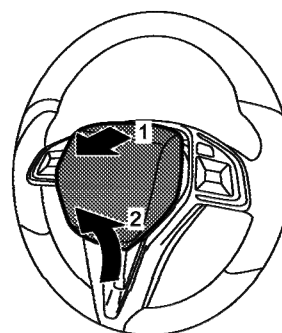

Figure 8
11. Lift the driver air bag module bottom up and away while pulling the top, according to the numerical order 1→2 as shown in the Figure 8, and then remove the driver air bag module from steering wheel.